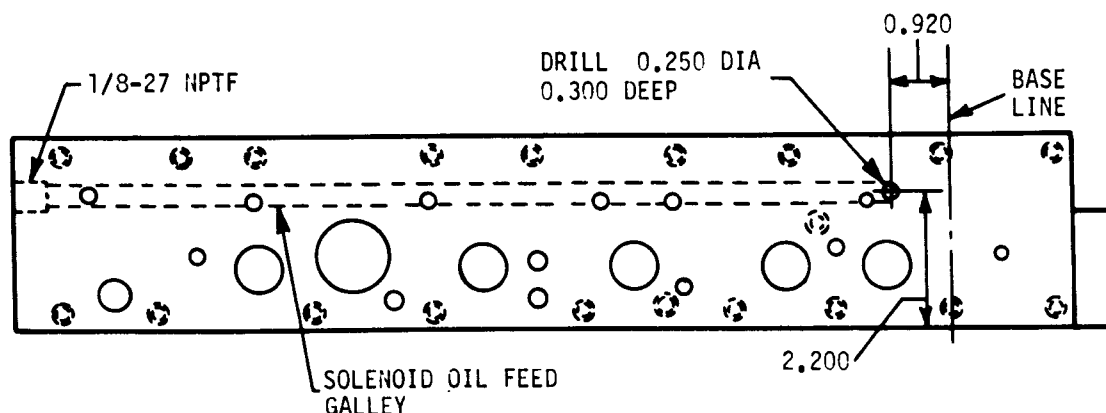

Fig. 3-4. Manual-electric control system wiring—schematic view
Note: These conductors are identified in figure 3-4 as J, K, L, M, N and P. For convenience in reconnecting these leads, they and the points from which they are removed may be tagged with the same letters.
(1) Refer to figure 3-4 for identification of branches (J, K, L, M, N, P) if not marked at removal.
(2) Connect branches to vehicle leads.
Note: Branch K (fig. 3-4) must be attached to pressure switch terminal that does not have a star washer.